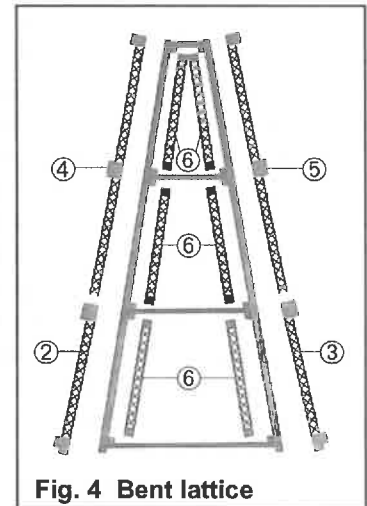

Fig. 4 Bent lattice
2. Cement the outside bent lattice, parts (2), (3), (4), and (5) to the bent assembly. Figure 4 shows their general position. (For clarity, the parts are shown flat in figure 4, they would actually be on edge if cemented to the bent halves.)
3. Trim the excess plastic from the gusset plates of parts (6), (7), (8), and (9) but not (10). Important: See III. Notes on page 1.
4. Cement the inside bent lattice parts (6) to the bent assembly. Figure 4 shows their general position.